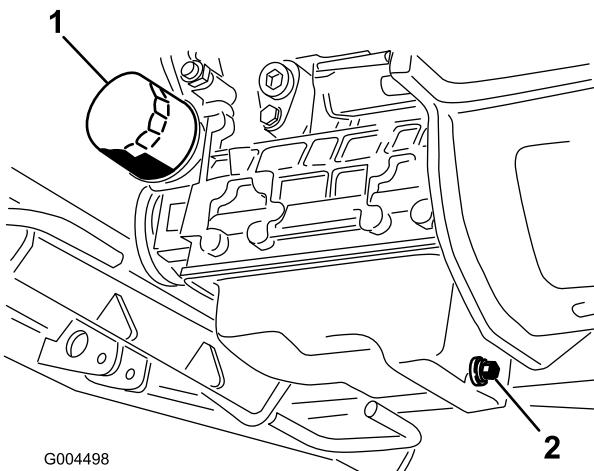

Figure 47
3. Set a drain pan under the oil pan and in line with the drain plug (Figure 47).
6. Remove and replace the oil filter (Figure 47).